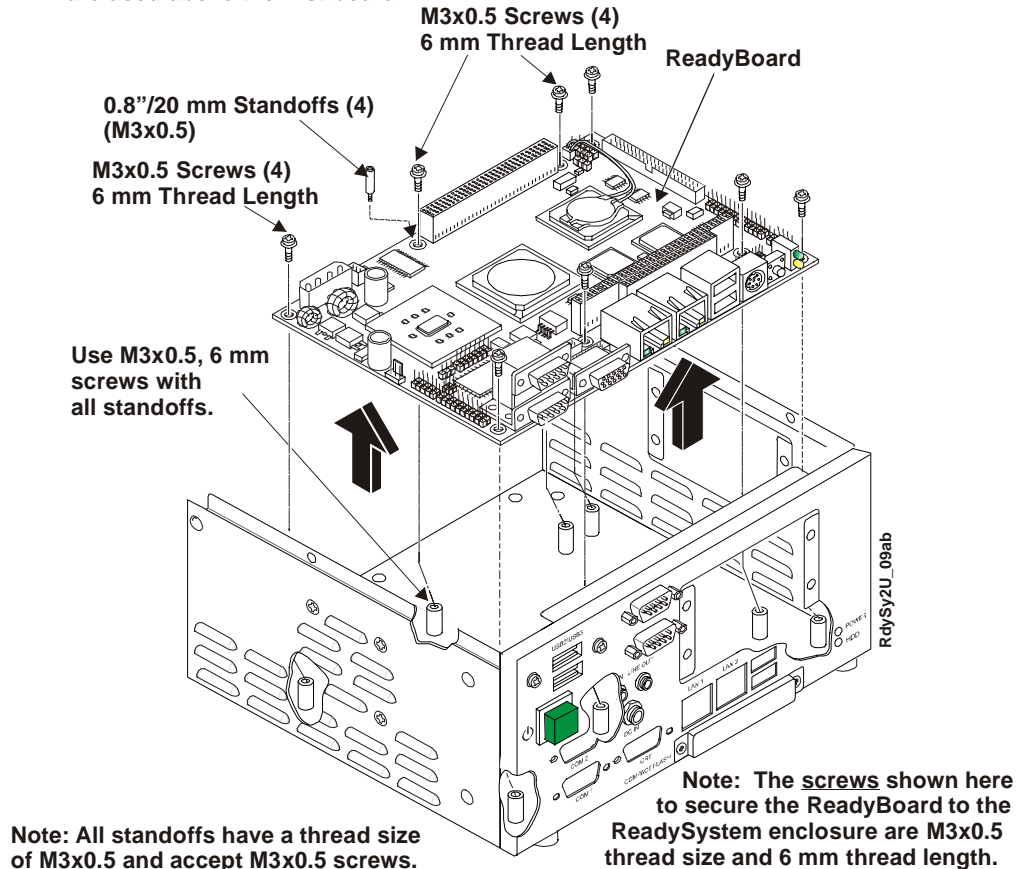

Figure 2-6. Removing ReadyBoard from Enclosure
10. Remove all screws (8) holding the ReadyBoard to the enclosure standoffs. See Figure 2-6.